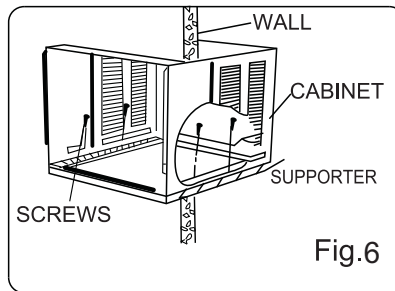

Fig.6
2. Remove shipping pad from around compressor before operation and make sure the discharge points to the drain pan are aligned before the chassis is pushed into the cabinet (See Fig.6).